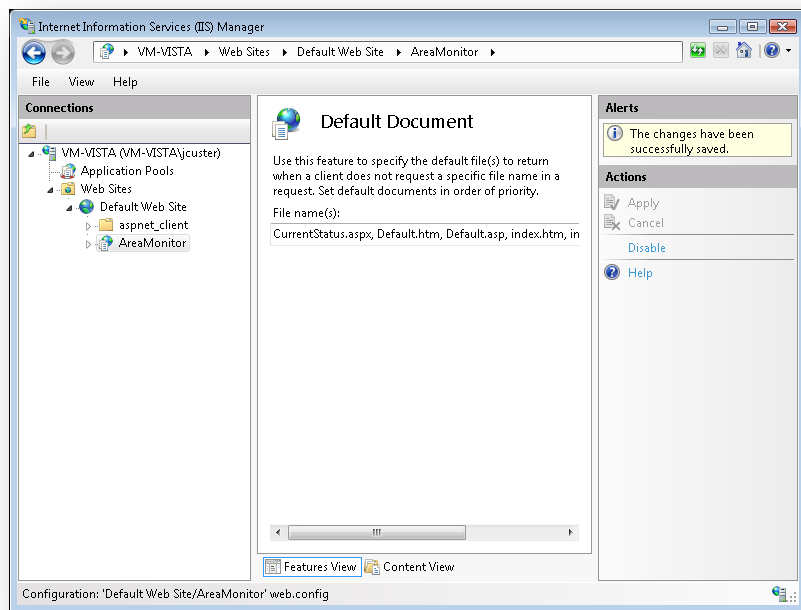

Figure 78 – Default Document for AreaMonitor application
20. Verify that the New Login window resembles Figure 78, then click “OK”.